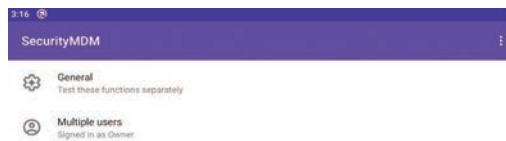

Figure 8. Multiple Users
2. Tap on **Multiple Users**, (Figure 8).